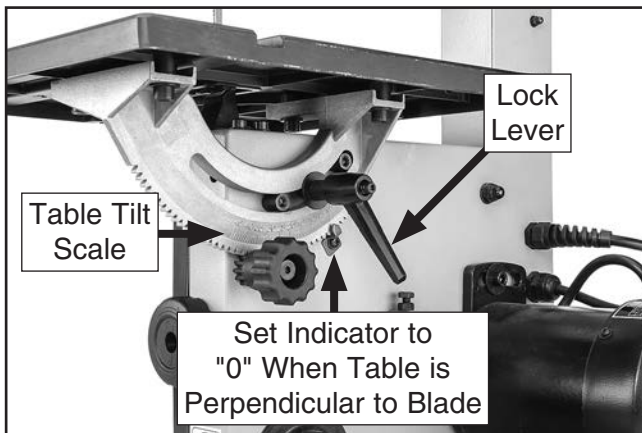

Figure 15. Table tilt controls re-installed.
9. Use lock lever and 8mm flat washer to secure table perpendicular to blade, then set scale indicator to "0" on table tilt scale and tighten screw (see **Figure 15**).